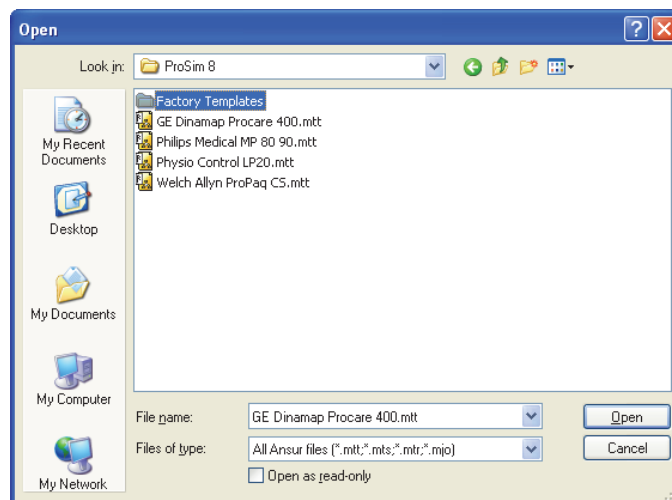

Figure 3-18. Generic and Factory Templates
3. Double-click the ProSim 8 folder to open the dialog box shown in Figure 3-18. The dialog box shows the generic test templates and the default templates in the factory templates director.